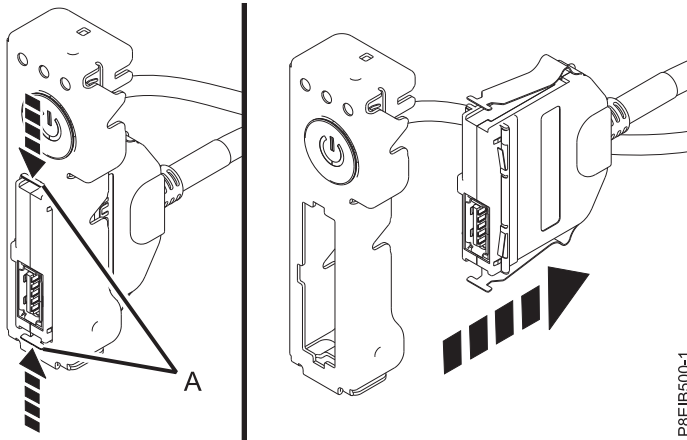

Figure 60. Removing front USB cable from power switch
10. Pressing the latch releases on the connector (A), disconnect the front USB cable from the power switch. See Figure 60 on page 59.